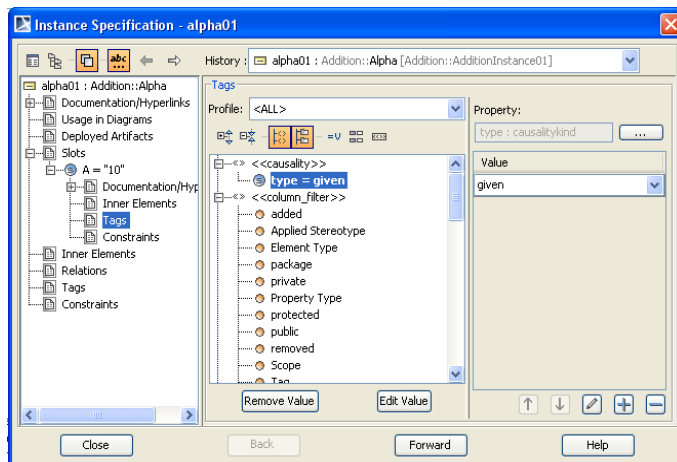

Figure 2.23 Instance diagram, preliminary
- vii. select Tags (see Figure 2.23).